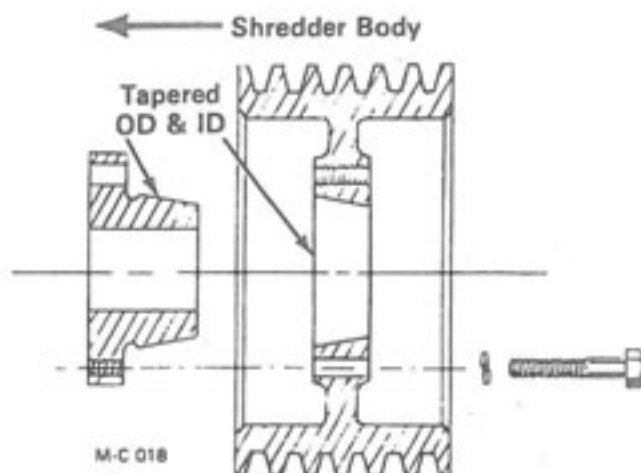

Figure 38
6. Place the bushing into the pulley from the back so that the bushing flange is to the inside, see Figure 38. The bushing and the bore of the pulley are tapered. Be sure to install the bushing into the large ID of the pulley tapered bore. If the bushing is installed into the small ID of the pulley, the pulley hub will crack when the mounting capscrews are tightened.